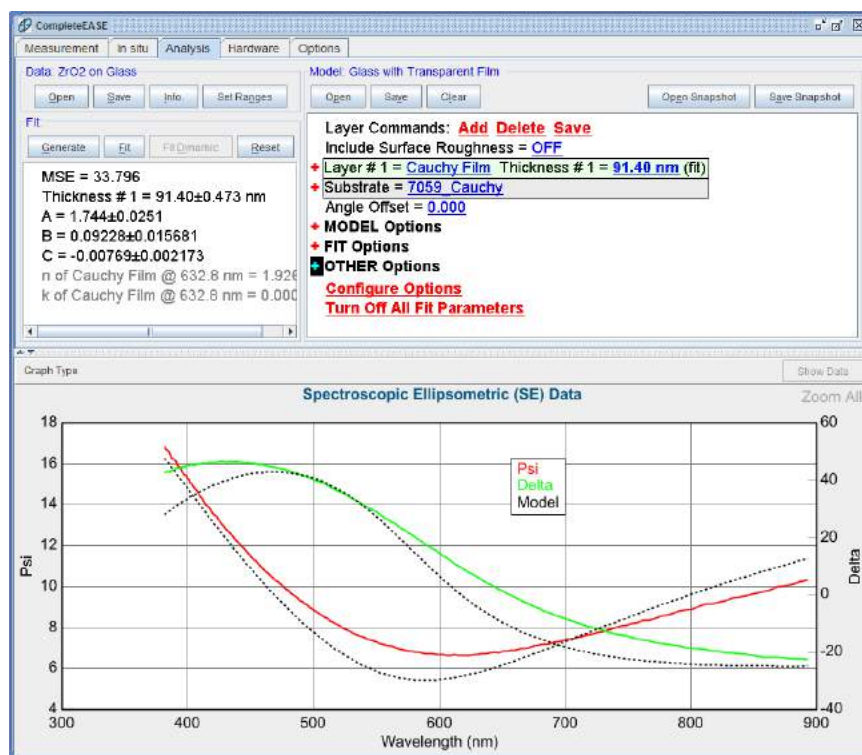

Figure 3-53. Fit to “ZrO2 on Glass” data with surface roughness OFF.
An interesting feature to the current model is the inclusion of surface roughness (the “Include Surface Roughness” option is set to “ON”). Actually, the best fit surface roughness value for this sample is rather large: 11.17 nm. To test the importance of roughness in this model, try fitting the data **without** surface roughness: toggle the “Include Surface Roughness = ” value to “OFF” by clicking (OL) on the blue underlined value. Since we already know the nominal thickness and index, it is also wise to turn OFF both the “Use Global Fit” and “Thickness Prefit”. Go ahead and click the ‘Fit’ button, which will fit the data without roughness – resulting in a poor fit and higher MSE, as displayed in Figure 3-53.